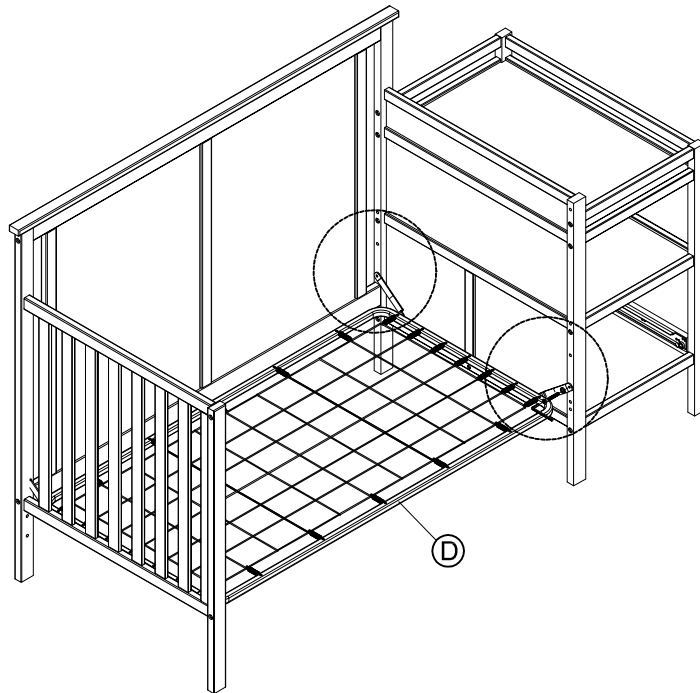
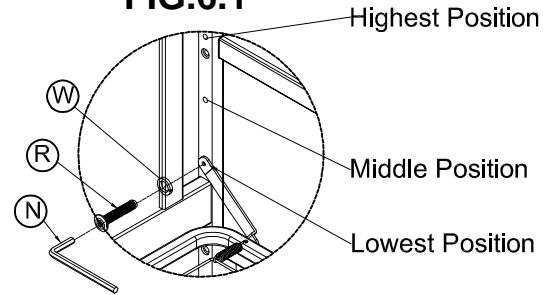

FIG.6.1
FIG.6.2
- Place mattress spring (D) in desired position into crib.
- Attach mattress spring (D) by inserting 4 pcs allenbolt 5/8"(15 mm)(R) and spring washer (W) through the holes in the bracket into the threaded holes on side frame as shown in FIG.6.1 & FIG.6.2.
- Secure with allenkey (N).
- See FIG.6.1 & 6.2 for height adjustment.